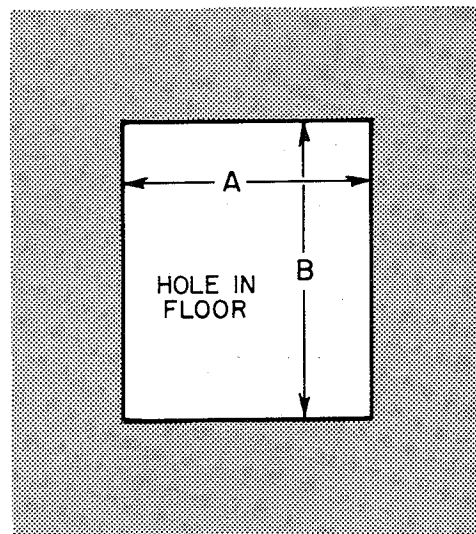

Fig. 2—Floor Opening for Concrete Slab
1. Construct hole in floor per dimensions in Fig. 2 and Table 3.